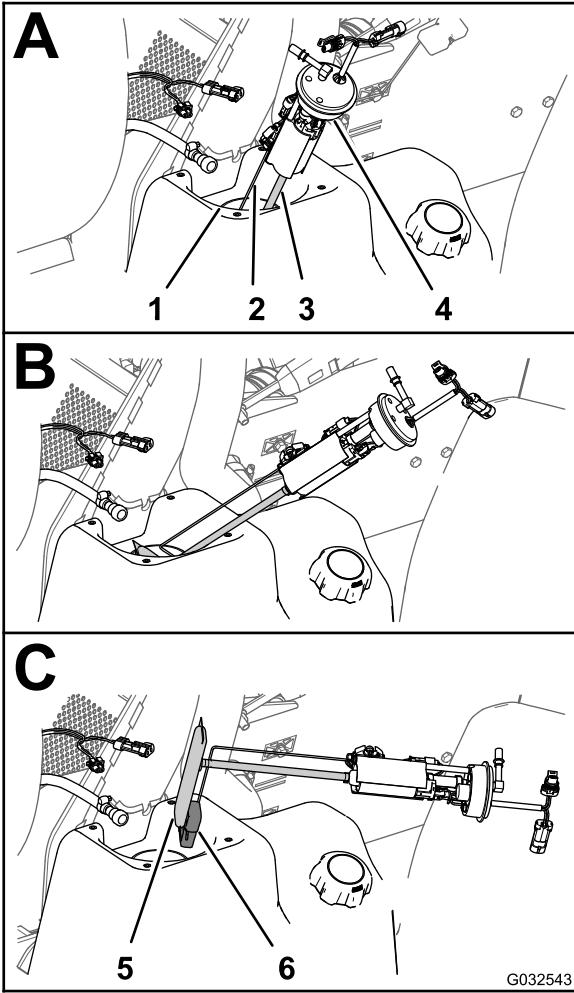
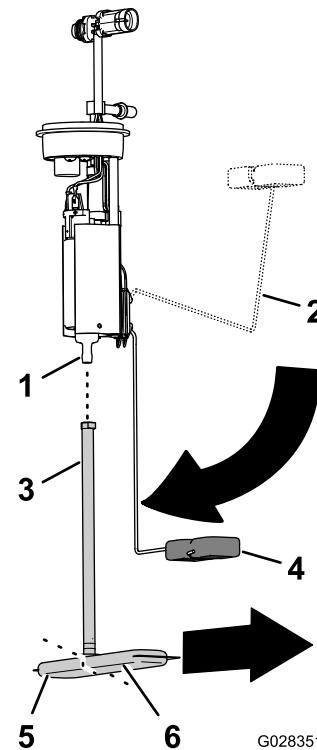

Figure 121
Figure 122
4. Carefully lift and rotate the fuel pump/sending unit out of the neck of the fuel tank (Figure 121).
1. Remove the pickup tube of the fuel filter from the fitting of the fuel pump (Figure 122).
2. Align the pickup tube of the new fuel filter with the fitting of the fuel pump (Figure 122).
3. Align the long leg of the fuel filter with float when the float arm is in the empty position (Figure 122).
4. Insert the fuel-pump fitting into the pickup tube until the fitting is fully seated (Figure 122).
1. Support the float arm and pickup tube together and slip the float and fuel filter into the opening in the fuel tank (Figure 121).
2. Seat the fuel pump/sending unit into the opening in the tank (Figure 121 and Figure 122).
3. Install the seal and nut over the fuel pump/sending and onto the neck of the fuel tank and tighten the nut hand tight (Figure 121).
4. Connect the coupling on the fuel hose to the fitting of the fuel pump (Figure 121).
5. Connect the 2-socket connector of the machine-wiring harness to the 2-pin connector of the fuel pump/sending unit; Connect the 2-pin connector of the machine-wiring harness to the 2-socket connector of the fuel pump/sending unit (Figure 121).